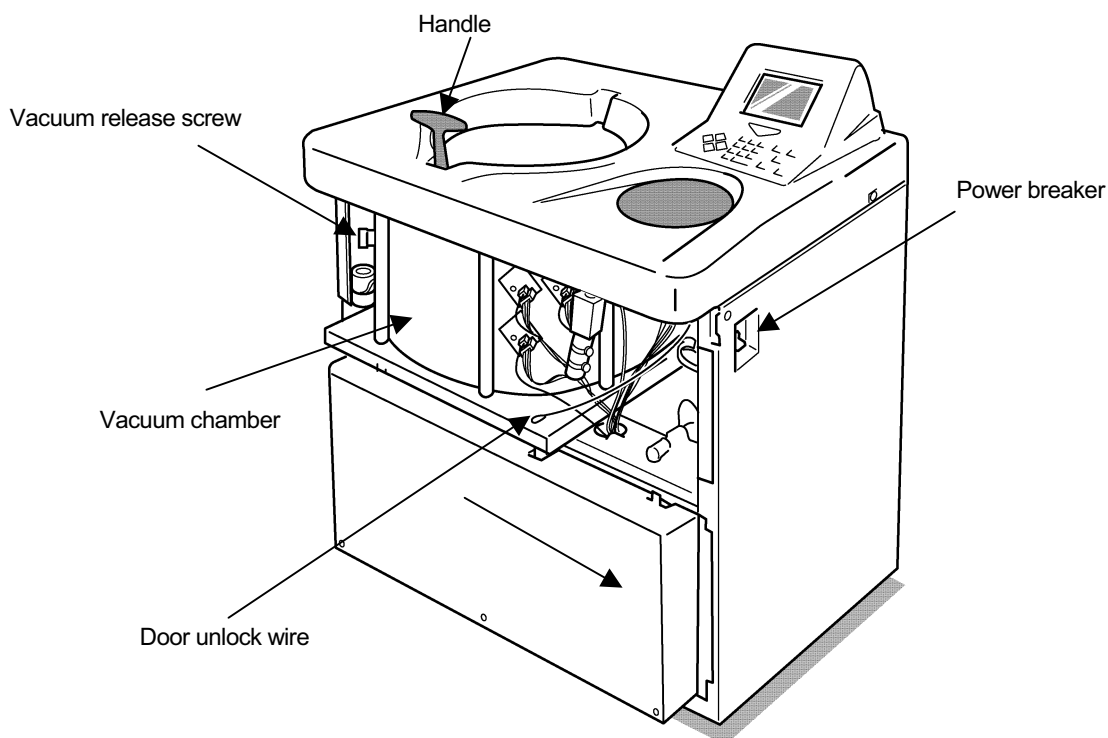

Fig. 3-7-2. Ultracentrifuge with the front cover removed
- (4) Open the air vent (by turning the vacuum release screw on the left of the vacuum chamber counterclockwise) to let air into the rotor chamber. When the pressure in the rotor chamber reaches atmospheric pressure, do not forget to tighten the vacuum release screw as it was before. (See Fig. 3-7-2.)
- (5) Pull the door unlock wire on the right of the vacuum chamber and, at the same time, push the door handle. Then the door opens. When opening the door, confirm that the rotor is not rotating. If it is still rotating, immediately close the door.
- (6) Remove the rotor. After the removal, close the air vent and put the front cover back to the ultracentrifuge. Insert the top surface of the front cover in the bottom surface of the front side of the table and put the bottom surface of the front cover on the support plate of the front cover by reversing the removing procedure. Fix it on the frame with four M5 hexagon head bolts.